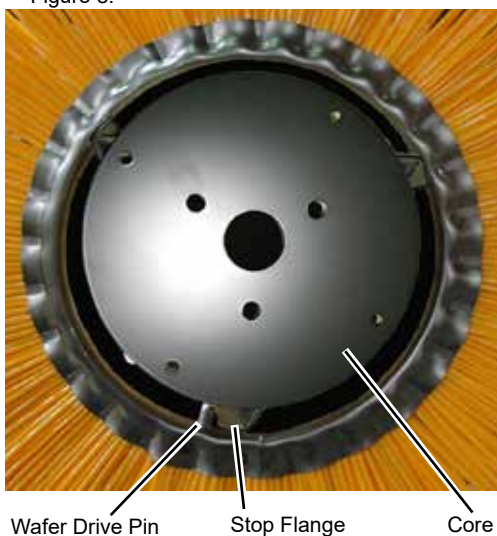

Figure 7
2. Note the location of the drive pin on the inside ring of each brush wafer. Position each wafer so its drive pin is positioned between the stop flanges. Rotate each subsequent wafer before installing so the position of its pin is staggered on the core by one stop flange. See Figure 7.